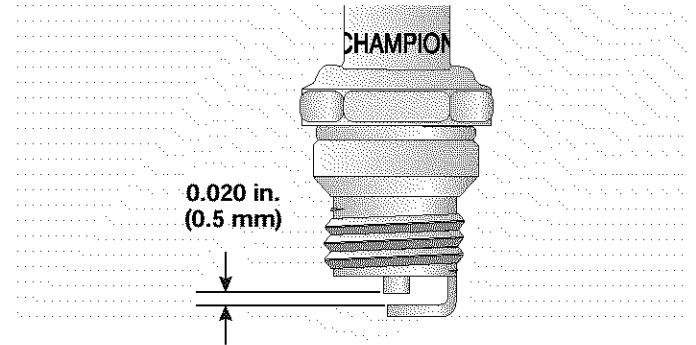

Fig. 44
3. Replace cracked, fouled or dirty spark plug. Set the air gap at **0.020 in. (0.5 mm)** using a feeler gauge (Fig. 44).